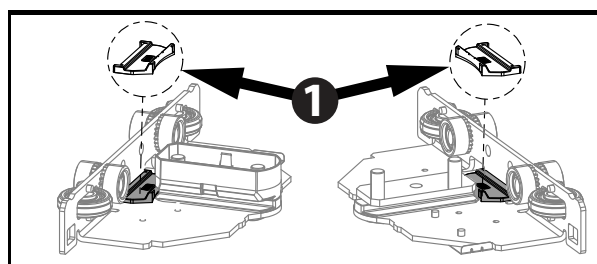

Fig. 6
- 1) Insert a contact strip protector onto each trolley and make sure they are snapped in place (see Fig. 6).